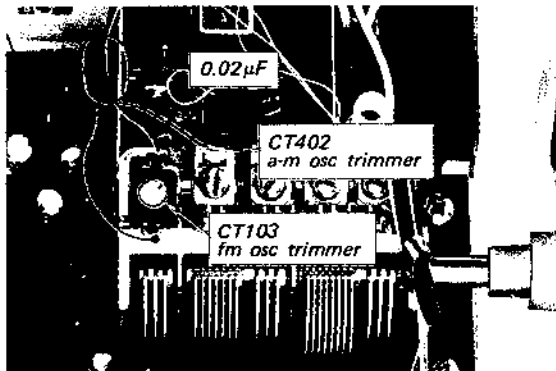

Fig. 3-2. Interruption of fm or a-m local oscillator operation
**Note:** Local oscillator should be killed when performing this alignment. To stop the local oscillator's operation, shunt the oscillator capacitor with a 0.02 μF capacitor. See Fig. 3-2.